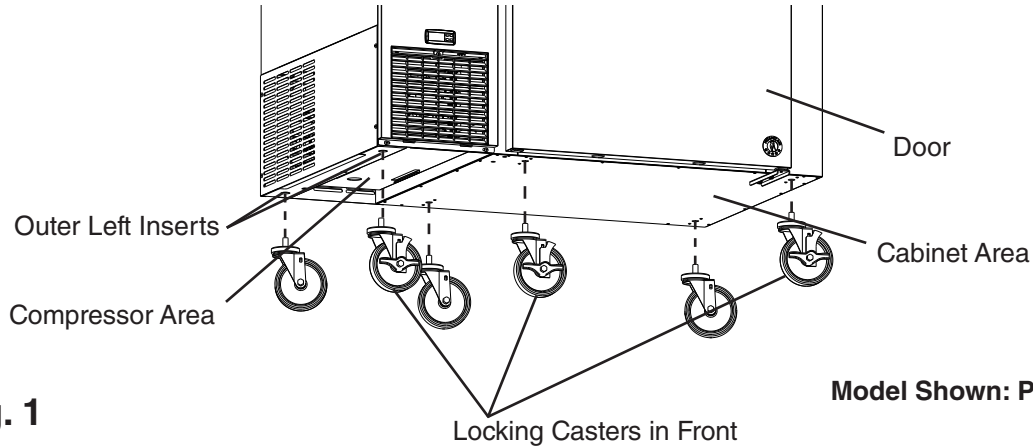

Fig. 1
- a) **PR46B(-D2):** Attach all 6 casters. See Fig. 1. **WARNING! On PR46B(-D2) models, all 6 casters must be installed. Otherwise, appliance may tip.**